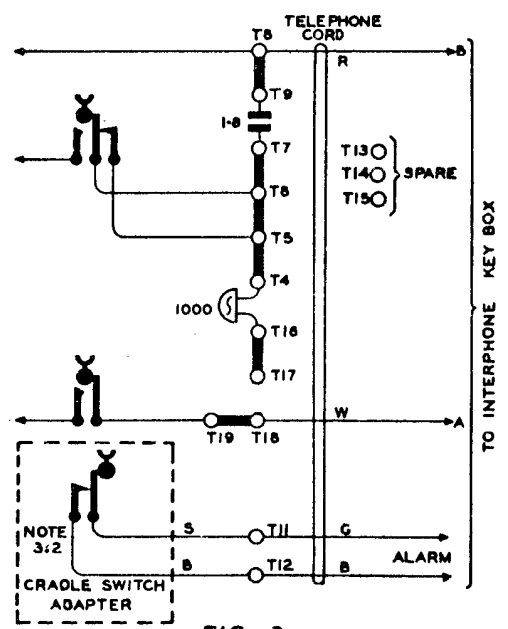

FIG. 3
3.2 Holding key alarm with normal telephone (Fig. 3).
3.2.2 Connect the leads from the additional springset as shown in Fig. 3.
3.2.3 Replace the 3-wire cord HC 543.... with a 4-wire cord KC 729.... and connect as shown in Fig. 3.
3.3.1 Fit cradle switch adapter as in Fig. 3 and Note 3.2.